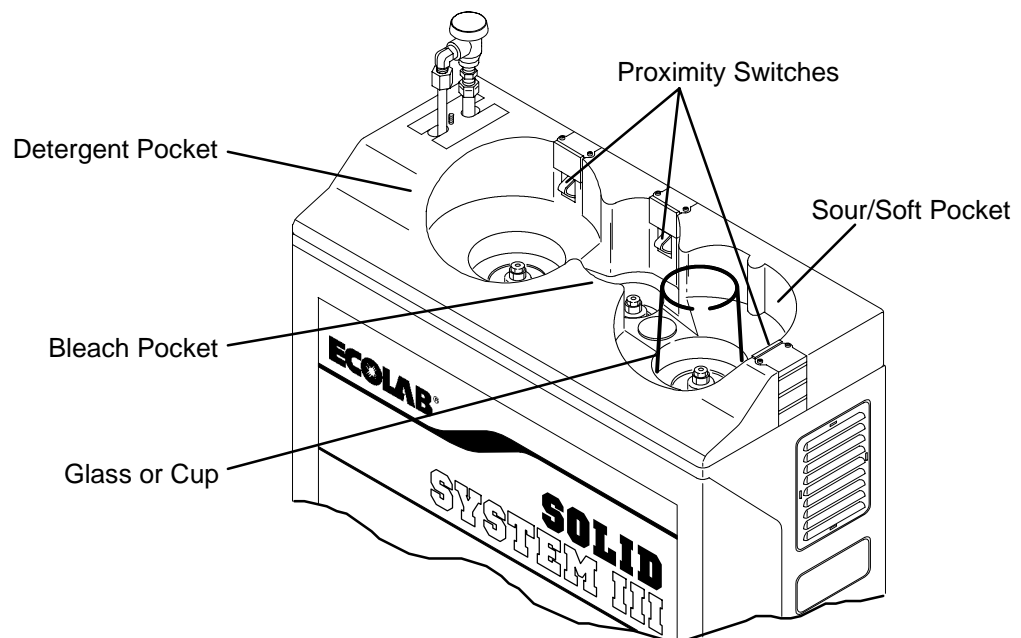

Figure 5-1
1. Place an empty glass or cup over the spray nozzle for the Sour/Soft product, *refer to Figure 5-1*.